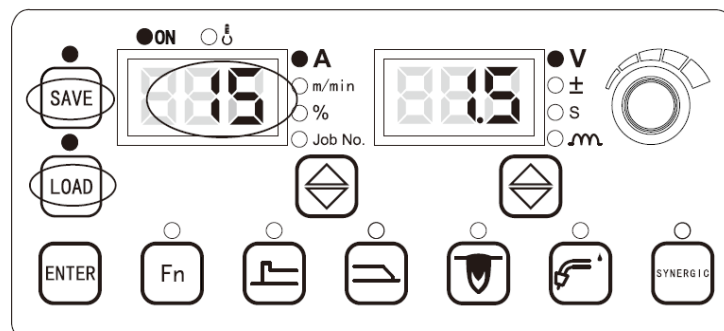

Figure 3-25 Current adjustment range locking screen
3. On the current adjustment range locking screen, follow the flashing instructions on the screen to use the knob on the control panel of the welder to set the current adjustment range. See Figure 3-25. The default range is $\pm 15A$. Then, press the **LOAD**  button to confirm the settings. The voltage adjustment range locking screen is displayed.